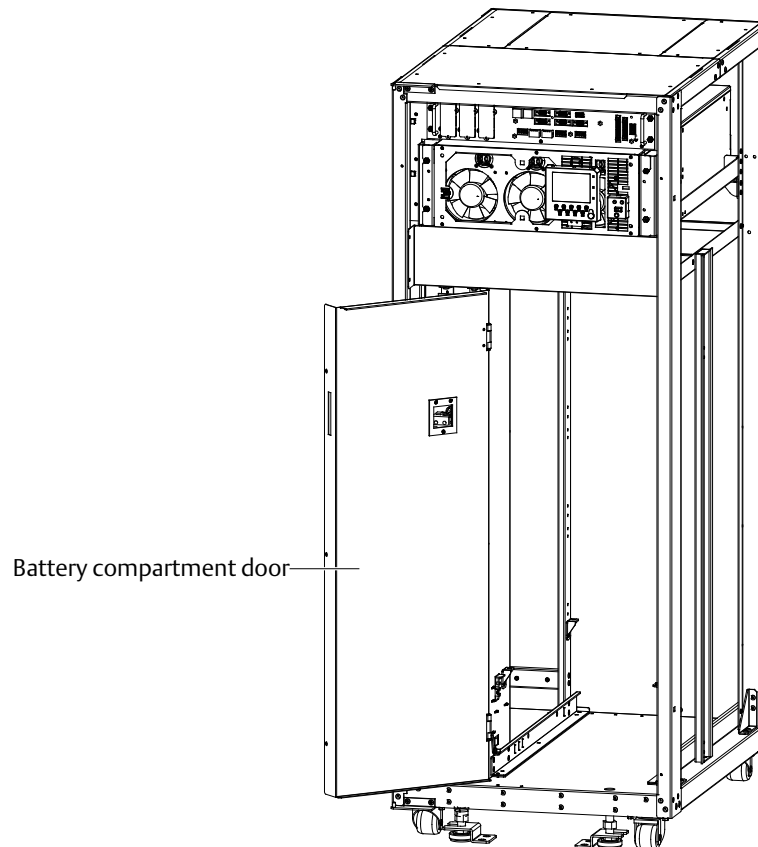

Figure 8-6 Opening battery compartment door
3. Open the cabinet front door, remove the screws to open the battery compartment door (see Figure 8-6), and reserve the removed screws.